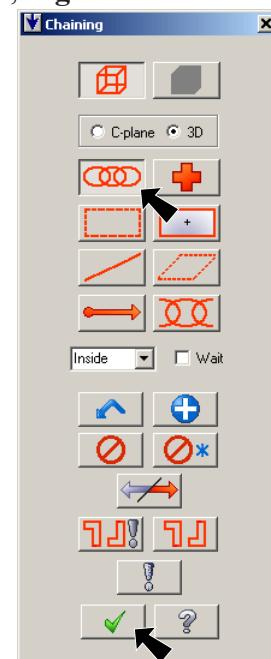

Fig. 12
Step 2. Click Chain  in the Chaining dialog box, **Fig. 12**.